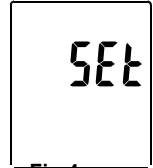

Fig.4
- (1) Turn off the unit.
- (2) Enter SETUP mode by pressing and holding  button and then press  power button to turn on the unit. "SET" blinks on the LCD screen.(see Fig.4)